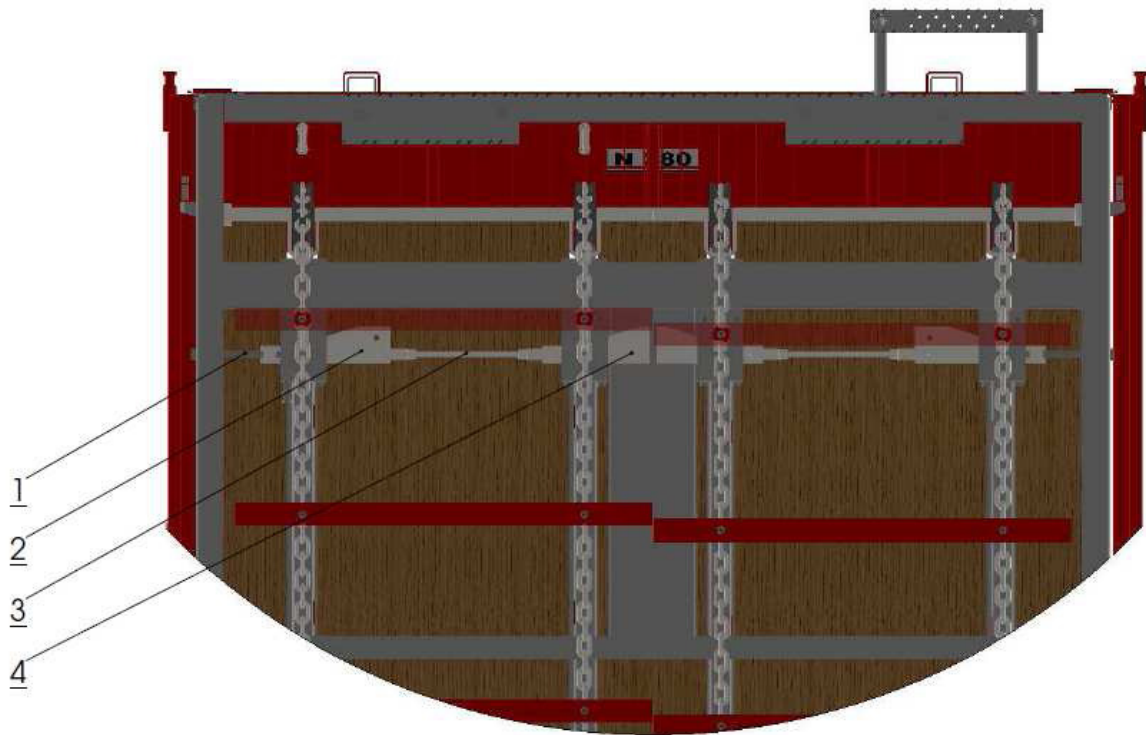
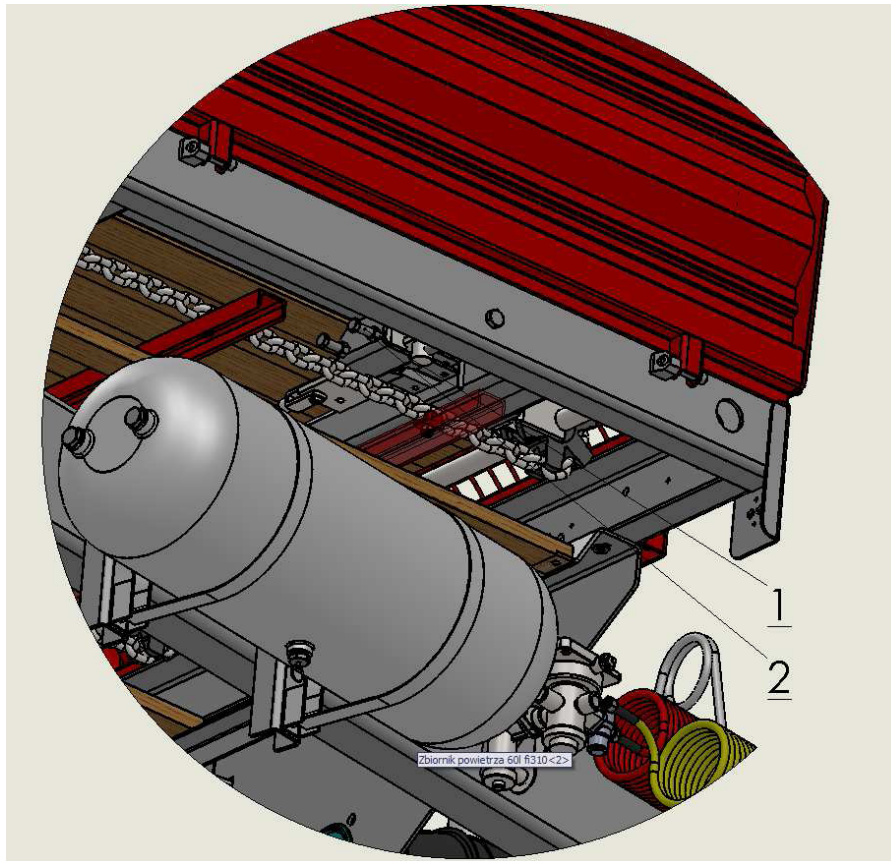

Fig. 4. Tensioning the conveyor chains.
Fig. 5. Correcting the tensioners setting.
The conveyor chains are adjusted by the stretcher screws (see fig. 4 item 1) located on the stringers of the spreader's top frame. The adjustment includes rotating screw (1) so as to obtain the correct chains tension. But if tension of one of the chains is different, correct it using coupler (3). After the screw (1) adjustment range is reached, adjust the support for wedges (2) and (4) using screws shown in fig. (5). To check the chains tension, raise the chain in the location in the middle of the length of the body. The distance of the chain from the floor should be 1–6 cm when lifted. If the chain is lifted above the maximum stretcher adjustment value, replace the chain with a new one.
To correct the setting of tensioners after the adjustment range of screw (1) fig. 4 is reached, shift the wedge supporting blocks using screws (1) fig. 5. Counter the screw with nut (2) fig. 5.